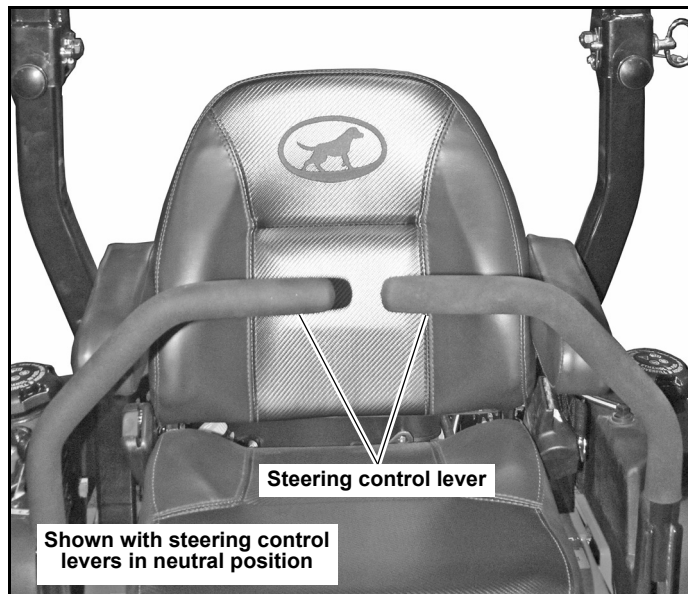
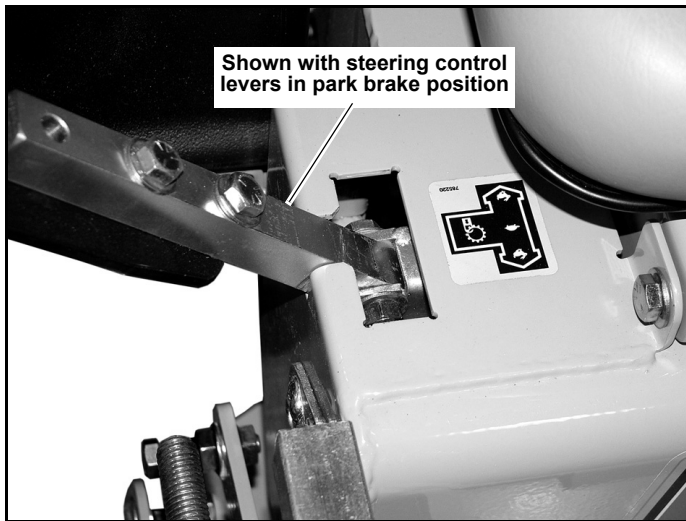

Figure 3-2
Figure 3-3
- A. **Steering control levers (Figure 3-2 & Figure 3-3)** — these levers control the mower’s speed, direction, stopping, and park brake. These levers are used to steer, accelerate, decelerate and change direction. When the steering control levers are in the park brake position the mower will not move when the engine is on and the drive pumps are operating.